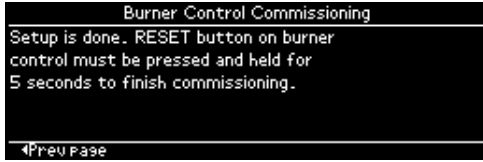

Fig. 75. Commission RESET button
- Burner commission reset (VP when setting is disabled and postpurge time was not configured) – see Fig. 75
- Burner commission reset (postpurge time was not configured earlier) – see Fig. 75
The Burner commission reset page is displayed for the final step of the commissioning procedure. After all configuration and confirmations are done the RESET button on the burner control module must be pressed and held for 5 seconds. This page (see Fig. 75) automatically displays when the burner control module wants this reset action to be performed.